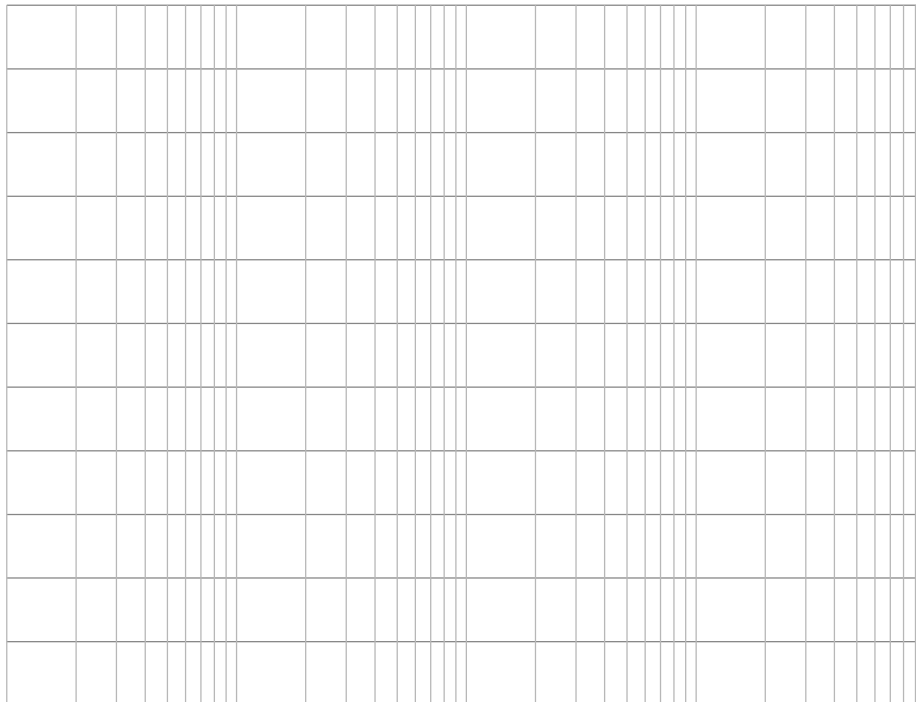

Figure 3: Semi-log plot.
- Calculate the transmissivity (T) and hydraulic conductivity (K) of the confined aquifer. You can use the semi-log plot in Figure 3 to plot the drawdown values if needed (14 points).
- Estimate the storativity or storage coefficient (S) of the aquifer. Explain your reasoning (6 points).